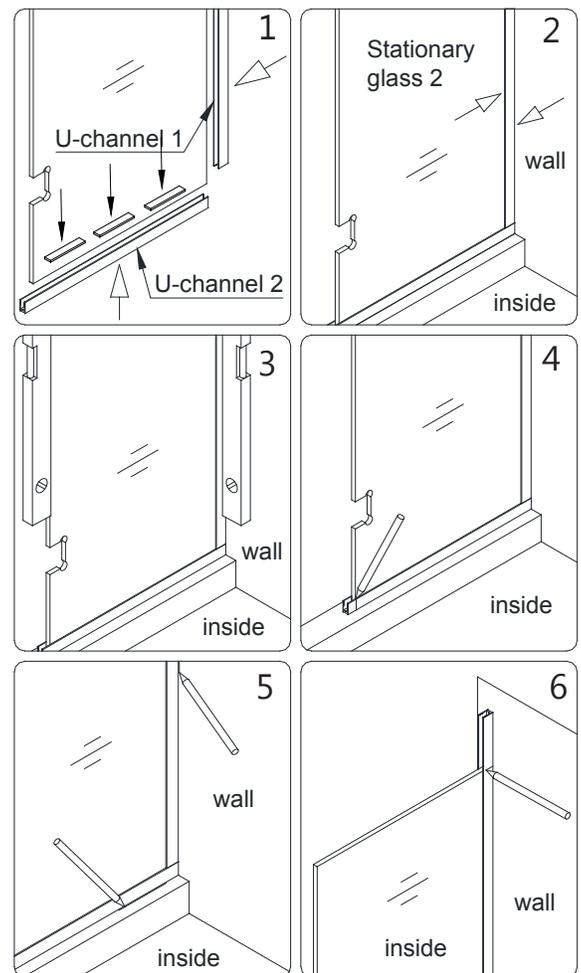

Fig 1
**See Fig. 1 For details**
•Mark the top of **U-channel 1 (#09) (wall profile)** flush with the top of the glass (Fig 1 .6) .
**See Fig. 1 for details**